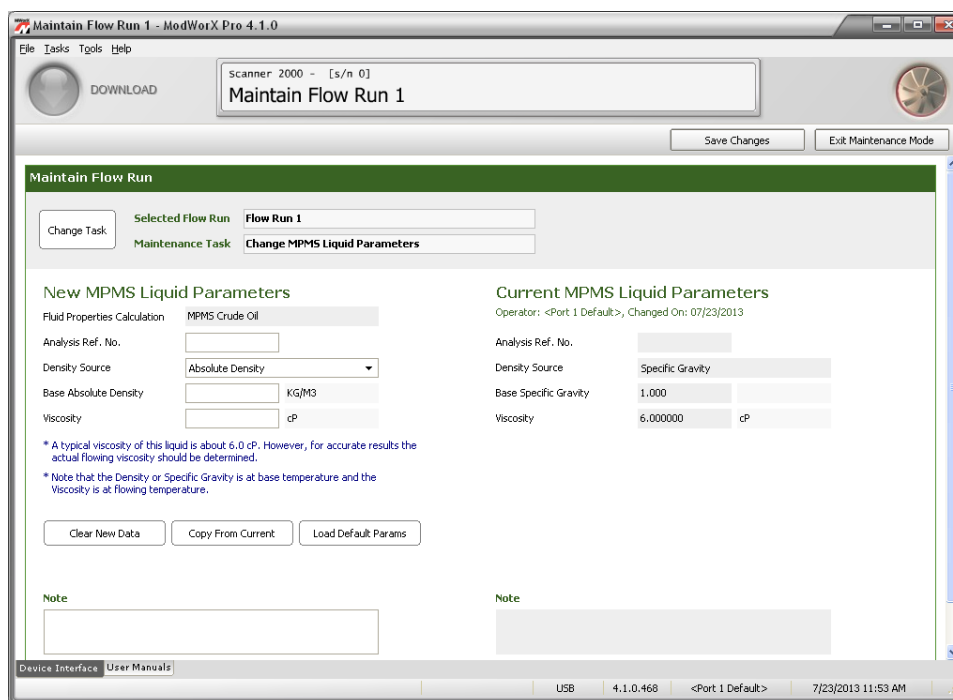

Figure 10.15
- b. Click **OK** to save the settings and return to the Maintain Flow Run screen (Figure 10.15, page 156).